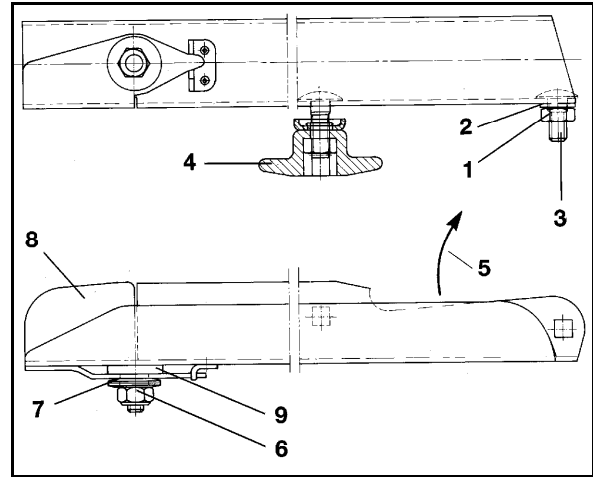

Fig. 77
It is essential to ensure that the spreading vanes are installed correctly! The open side of the U-shaped spreading vane must be facing the direction of rotation (Fig. 77/5).
1. Release and remove the fixing bolt (Fig. 77/3).
2. Release and remove the quick-release screw connection (Fig. 77/4).
4. Replace the used self-locking nuts (Fig. 77/1) of the fixing bolts with new ones.
5. Secure each spreading vane with a fixing bolt, washer and an unused self-locking nut (Fig. 77/1) so that they can move on the spreader disc.
6. Tighten the self-locking nut (Fig. 77/1) with a tool to the extent that you can still just swivel the spreading vane by hand.
7. Fit the quick-release screw connections (Fig. 77/4), consisting in each case of a round-head screw, disc spring and wing nut. Make absolutely sure that the open side of the disc spring faces the spreader disc.
9. Firmly tighten the respective wing nut of the quick-release screw connection (Fig. 77/4) by hand (without using a tool).